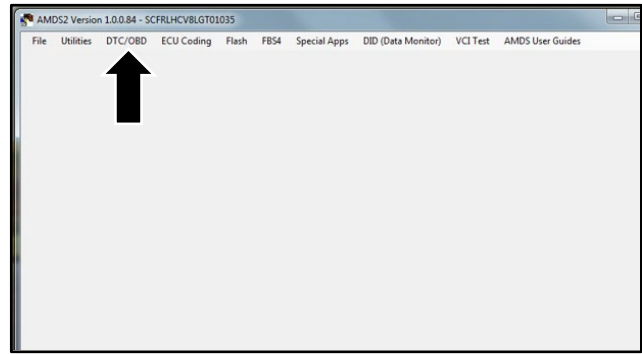

Figure 1
- In AMDS 2.0 click the "DTC/OBD" button (refer to Figure 1).